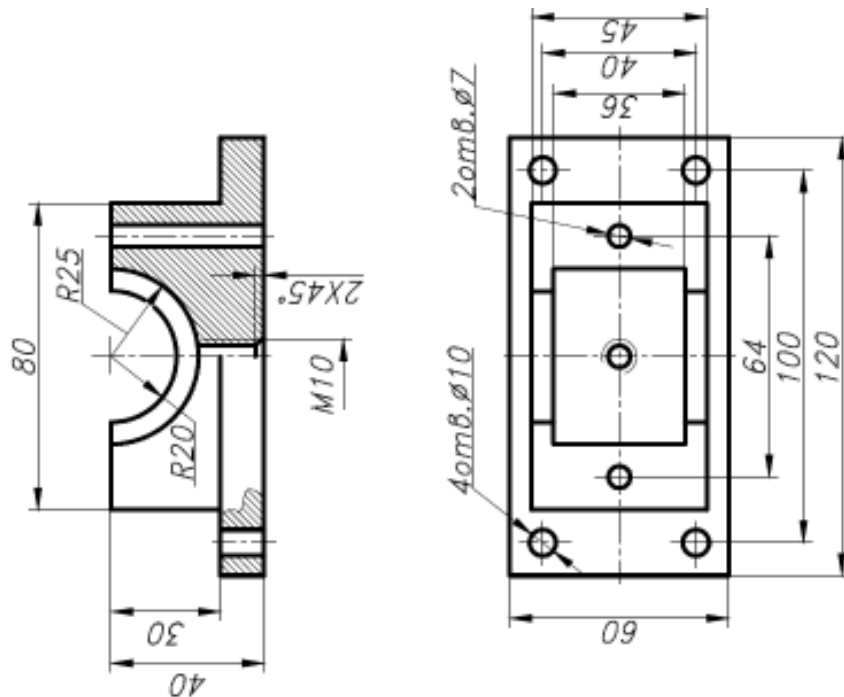

Figure 22 – Typical part 1
1. Create a drawing of typical part 1 (Figure 22):